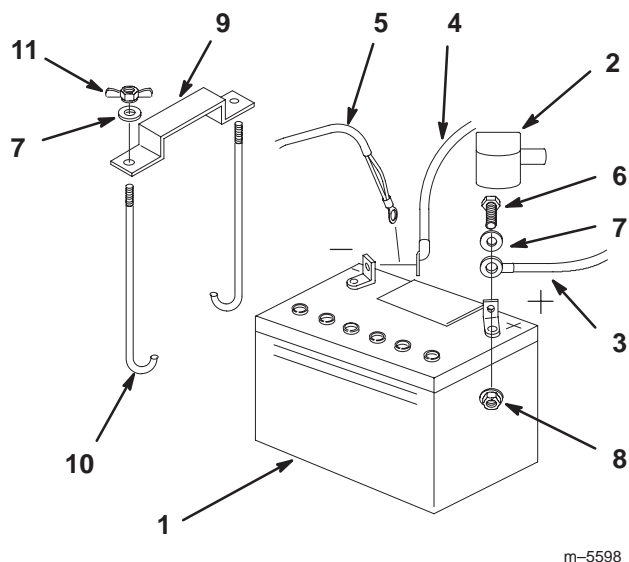

Figure 62
1. Position battery in tray with terminal posts toward the engine (Fig. 62).
4. Secure cables with 2 bolts (1/4 x 3/4 inch), 2 washers (1/4 inch), and 2 locknuts (1/4 inch) (Fig. 62).
6. Secure battery with J-bolts, hold down clamp and 2 washers (1/4 inch), and 2 wing nuts (1/4 inch) (Fig. 62).
3. First disconnect the negative battery cable and ground wire from the negative (-) battery terminal (Fig. 62).
4. Slide the red terminal boot off the positive (red) battery terminal. Then remove positive (red) battery cable (Fig. 62).
5. Remove both wing nuts (1/4 inch) securing the battery clamp (Fig. 62).